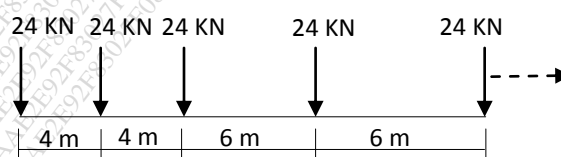

Fig.3
- Q.9 A train of a wheel load as shown in fig.3 crosses a simply supported beam of span 20m from left to right with 24 kN load leading. Using I.L.D. determine the maximum bending moment under central load. 15